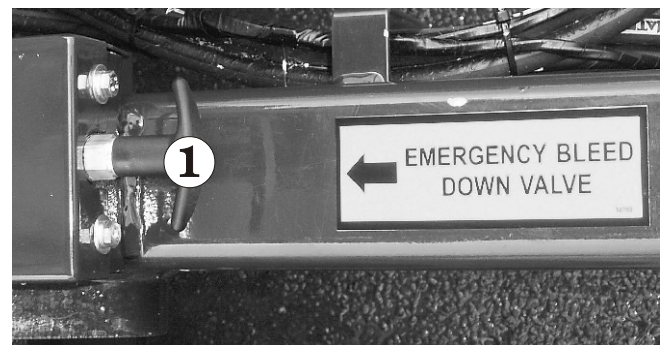

Figure 7.28 - Emergency Lowering
Press the operator horn ⑤ (see Figure 7.28) to see that it works.
Pay particular attention to the **Emergency Stop** switch ⑥ to see that it turns the engine off when struck (see Figure 7.28).
Pay particular attention to the **Safety Control** ⑦ to see that it deactivates the **Joystick Controller** ⑧ when the safety control ⑦ is released (see Figure 7.28).
Operate the emergency lower by pulling on the cable (see Figure 7.28) located at the front of the chassis. When the platform is fully lowered release the cable.